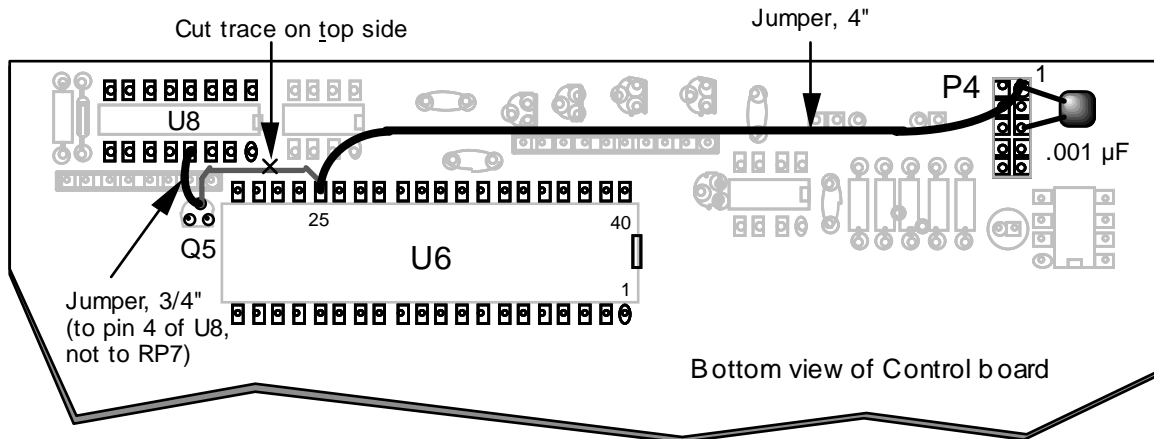

Figure 5
- Locate the Control board revision letter, at the bottom right-hand corner near P3 (top side of the board). If your Control board is rev. A (or XC, used during K2 field test only), you will need to modify it. (If your board is rev. B or later, skip the next four steps.) Figure 5 shows the *bottom* side of the Control board, where most of the modifications will be made. One trace will be cut (on the *top* side of the board).